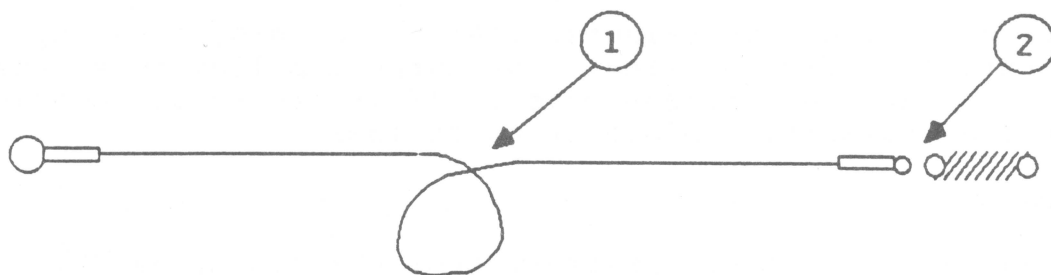

Figure 2
2. Make a loop in the wire (see Figure 2) and fit it around the ribbon drive pulley beneath the carriage assembly. Make sure the crossover in the loop (Figure 2, #1) is at the rear of the pulley.
4. Hook the **smaller** end-loop of the new wire through one hook of the spring. (See Figure 2, #2.)